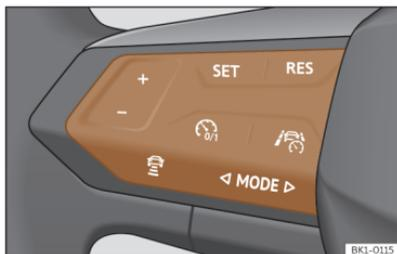

Fig. 126 On the multifunction steering wheel: buttons for operating the ACC.
- Press the  button on the multifunction steering wheel >>> **Fig. 126**.
- To start regulation, press the button **SET** >>> **Fig. 126**.
To program the speed, press the + or - >>> **Fig. 126** buttons to the desired speed. The speed is adjusted at intervals of 10 km/h (5 mph).
- Press the button  and then the button + or - >>> **Fig. 126**.
- Briefly press the button  >>> **Fig. 126** or press the brake pedal.